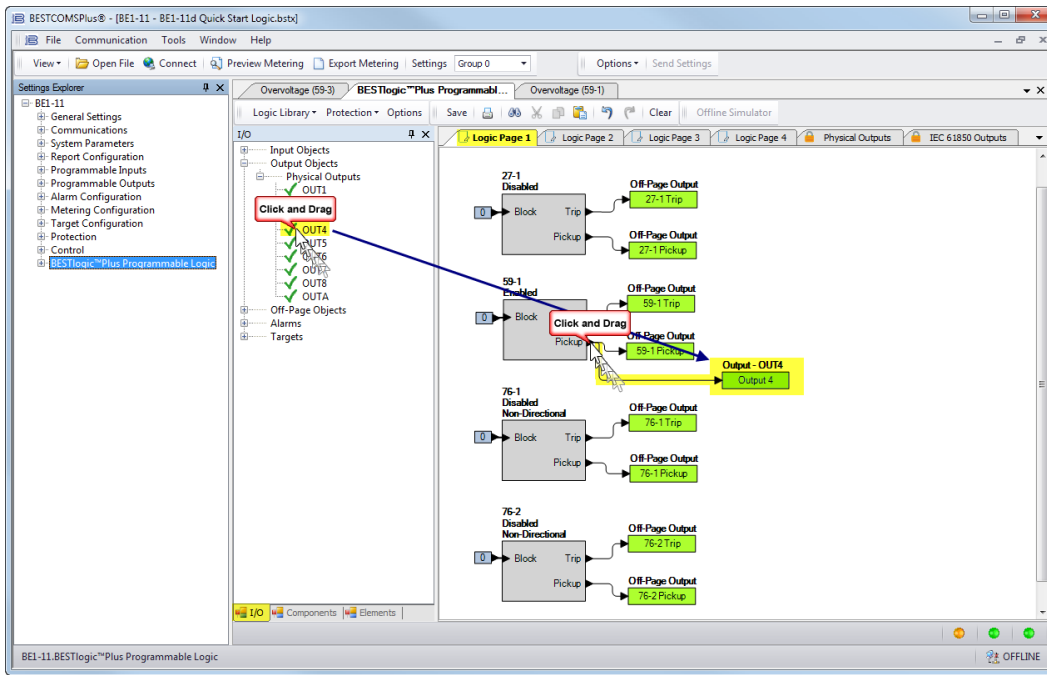

Figure 2-14. BESTlogicPlus Programming OUT4
- Step 8: In this step, the Pickup output of the 59-1 element is connected to Output 4. When the Pickup output of the 59-1 element is true, the label of Output 4 is displayed in the fault report and/or sequence of events report. The label is named in Step 15. Click the Logic Page 1 tab and then click the I/O tab at the bottom. Expand Output Objects and then Physical Outputs. Click and drag OUT4 over to the logic diagram. Click on the Pickup output of the 59-1 element and drag it to the input of OUT4 to make a connection. Refer to Figure 2-14.